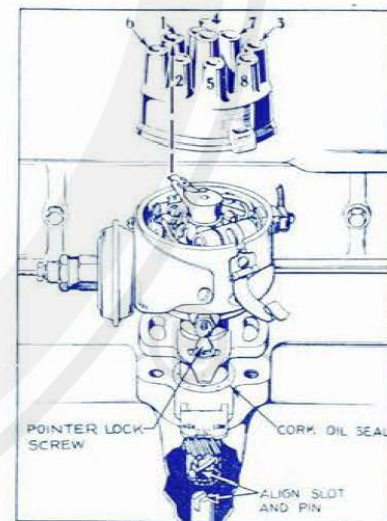

Fig. 4. Installing Distributor
4. If distributor has been removed, install in position shown in Fig. 4.